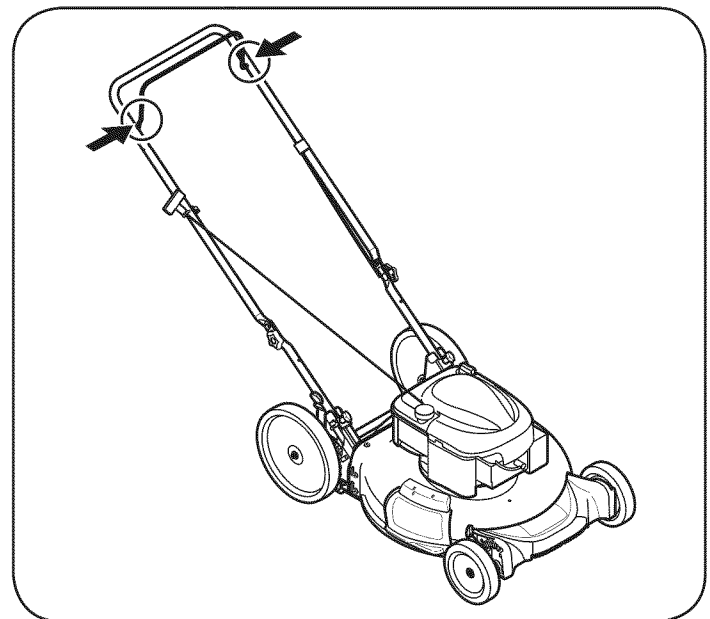

Figure 16
1. Loosen screw and tilt plastic housing cover on side of engine down. See Figure 16.
Lubricate pivot points on the blade control at least once a season with light oil. This control must operate freely in both directions. See Figure 16.